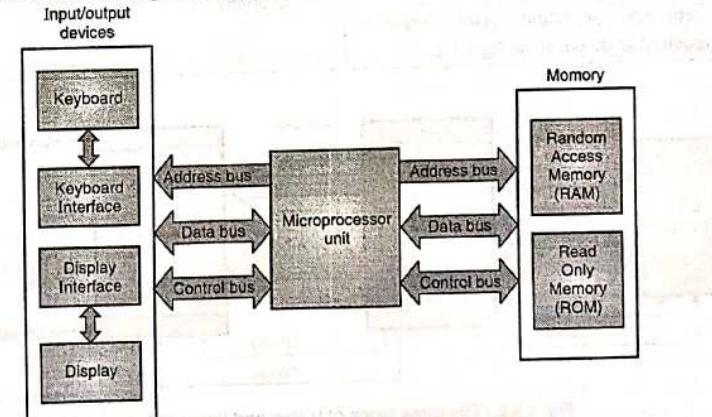

Fig. 1.2.1 : Block Diagram of a Microcomputer
Fig. 1.2.1 below show the block diagram of a microcomputer.
- The microprocessor unit or the microprocessor contains arithmetic and logical unit (ALU) as well as a control unit (CU).
- It mainly contains Random Access Memory (RAM) and Read Only Memory (ROM) as shown in the Fig. 1.2.1.
- Hence, for each input or output device a separate interface is required as shown in the Fig. 1.2.1.